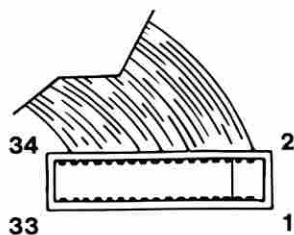

Figure 18. Signal Cable Voltage Check
- Refer to Figure 18 on page 0600-27 and check the voltage at pin 30 of the diskette drive A signal cable connector (diskette drive end).